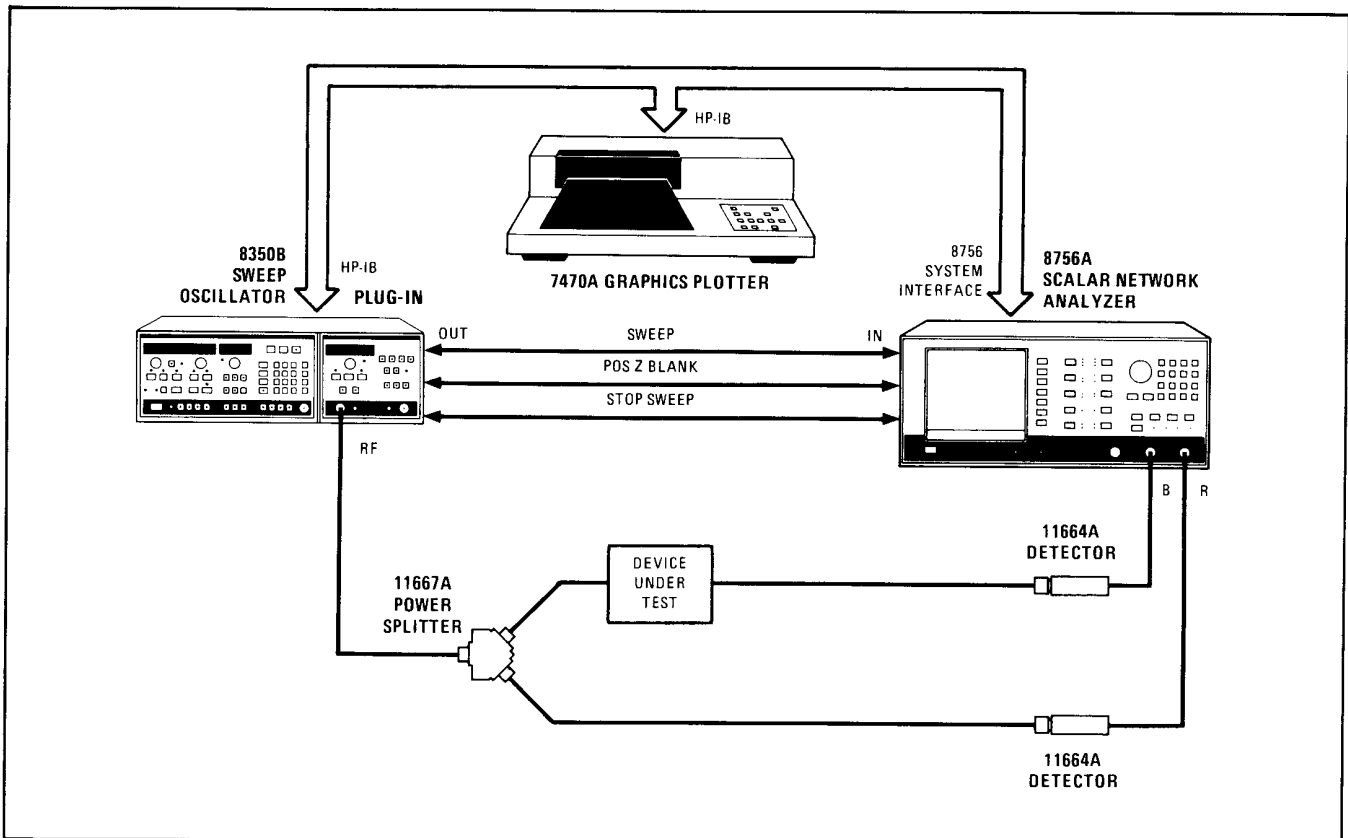

Figure 14. Transmission-Only Measurement Ratio Setup
The setup shown in Figure 14 adds a power splitter and detector to obtain power for the R (reference) input. Select **MEAS RATIO B/R** to view the response. This ratio technique provides an improvement in effective source match characteristics of the setup by removing stimulus power variations common to both the reference (R) and test (B) inputs. This technique is especially appropriate for measurement of low insertion loss devices and for devices with poor input match.
Connect Ratio Setup shown in Figure 14 or 17.